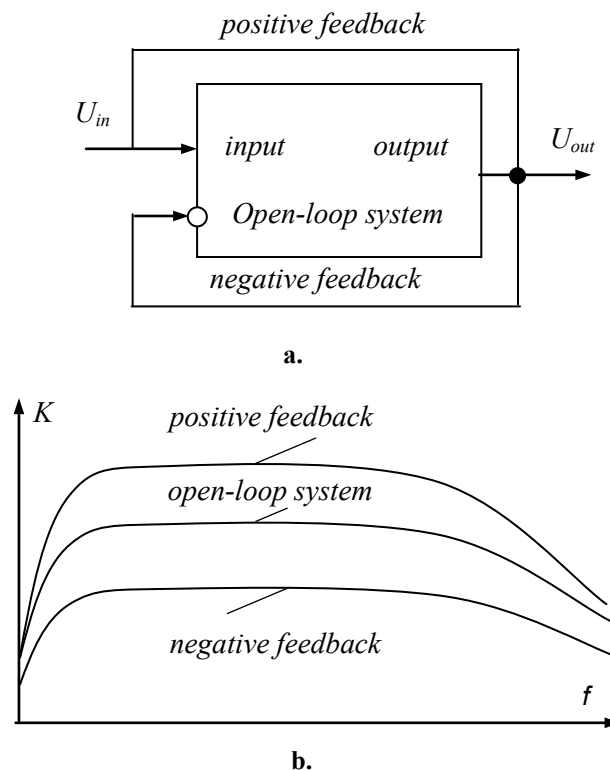

Fig. 2.8
**Feedbacks.** The main tool to improve the frequency response or the step response is a feedback. The circuit, the output of which changes the input, at least partly, is called a *closed loop circuit* or a circuit with *feedback*. We refer to the *negative feedback* when the output signal enters the input with the negative polarity (Fig 2.8,a). The other term of this circuit is an *inverse feedback*. In this case, the voltage across the feedback input opposes the reference input voltage. The negative feedback reduces the gain, but improves the gain stability, decreases distortion, and enlarges the midband, as is seen in Fig 2.8,b.
The loop is called a *positive feedback* when the output signal enters the input with the same polarity. In this case, the voltage across the feedback input corresponds to the reference input voltage. The positive feedback enlarges the gain, but deteriorates the gain stability and distortion and narrows the midband, as illustrated in Fig 2.8,b.